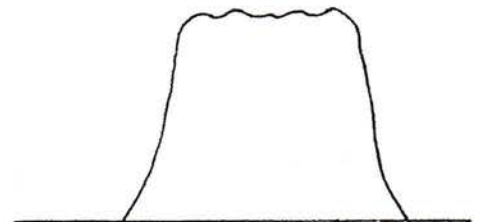

Figure 6-1
- C. Adjust "L1, L2, L3, L4, L5 and L6" for best passband. See Fig. 6-1.